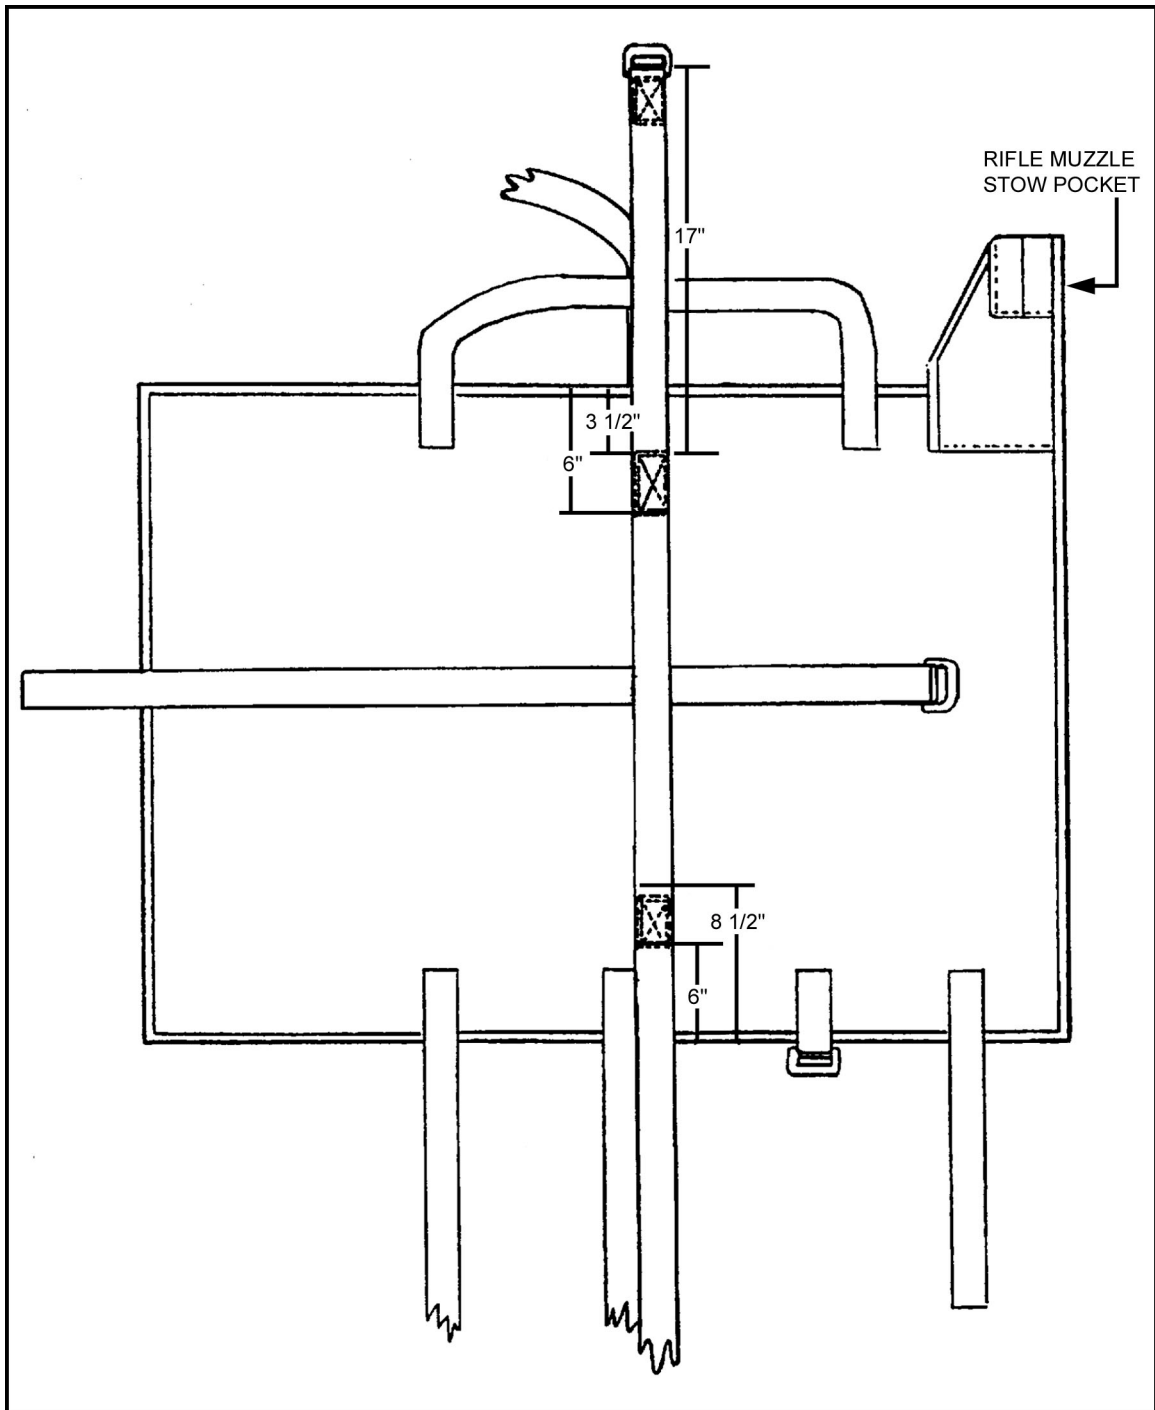

Figure 12-64. A-7A strap cut, marked, aligned, and stitched.
e. Cut a second A-7A strap to an overall length of 68 inches. Mark the A-7A strap at a point 17 inches from the buckle. Align this mark with the 3 1/2-inch mark and stitch with two box-X stitch formations (Figure 12-64).